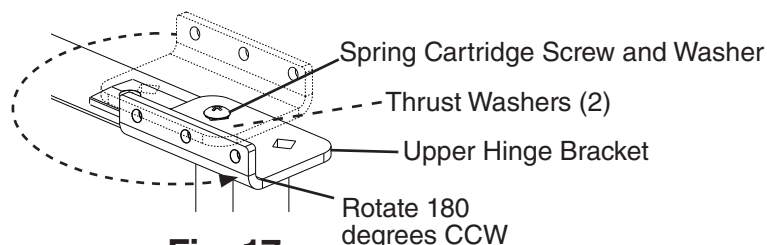

Fig. 17
- 4) Rotate the upper hinge bracket 180 degrees counter clockwise. See Fig. 17. Next, remove the spring cartridge screw and washer, then remove the upper hinge bracket and thrust washers (2). Set the door aside. Retain the upper hinge bracket thrust washers for opposite side hinge bracket installation.